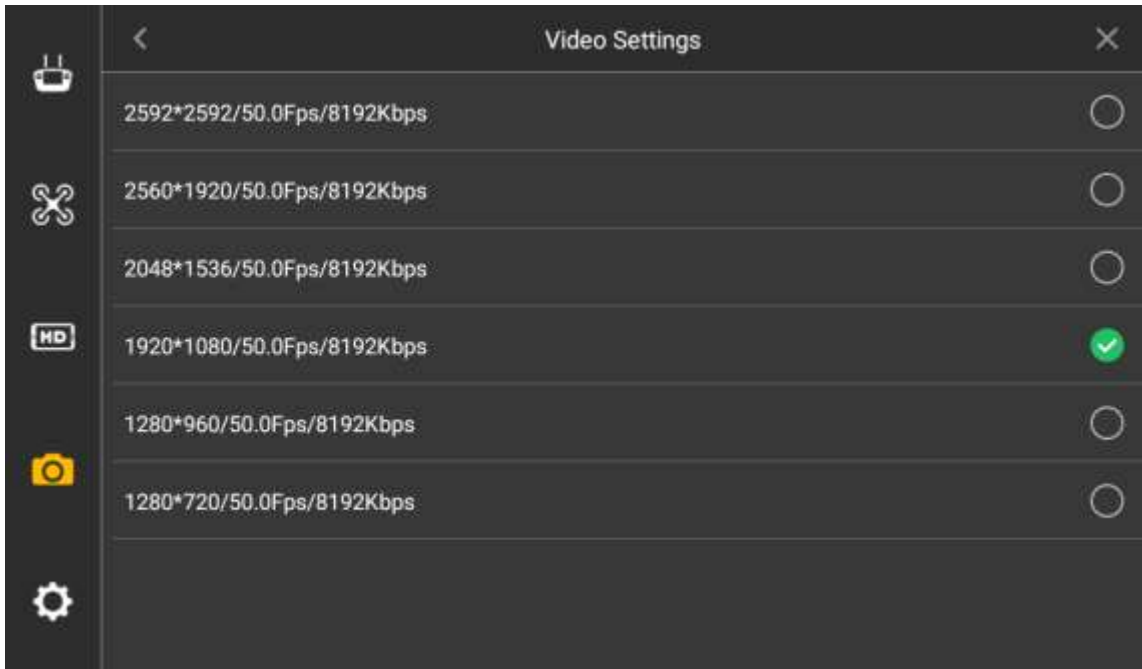

Figure 4-30
Step 1 Select "Settings > Camera Settings > Video Settings", and the system will display the interface of "Video Settings", as shown in Figure 4-30.